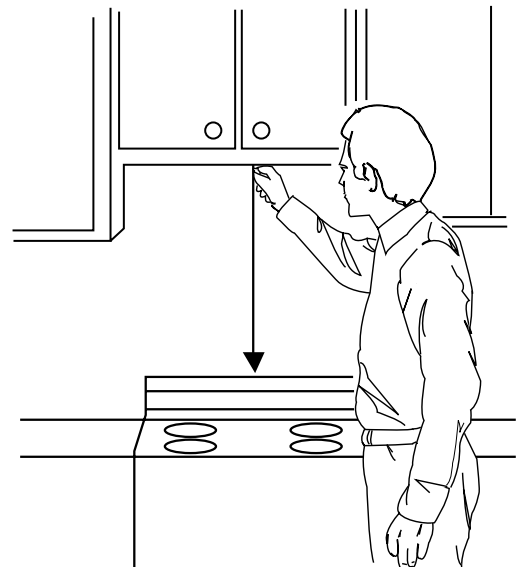

Figure 21
- Using a plumb line and (metal) measuring tape, find and mark the vertical center line on the back wall, as in Figure 21.